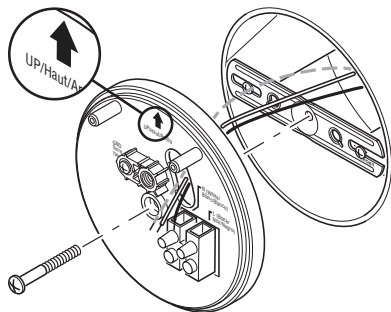

Figure 3
3. Route the junction box wires through the hole in the mounting plate (see Figure 3).
4. Place the mounting plate against the junction box (see Figure 3).
5. Insert the small mounting bolt through the mounting plate hole located below the threaded hole. Thread the bolt into the center hole of the mounting bracket (see Figure 3). Tighten bolt securely.